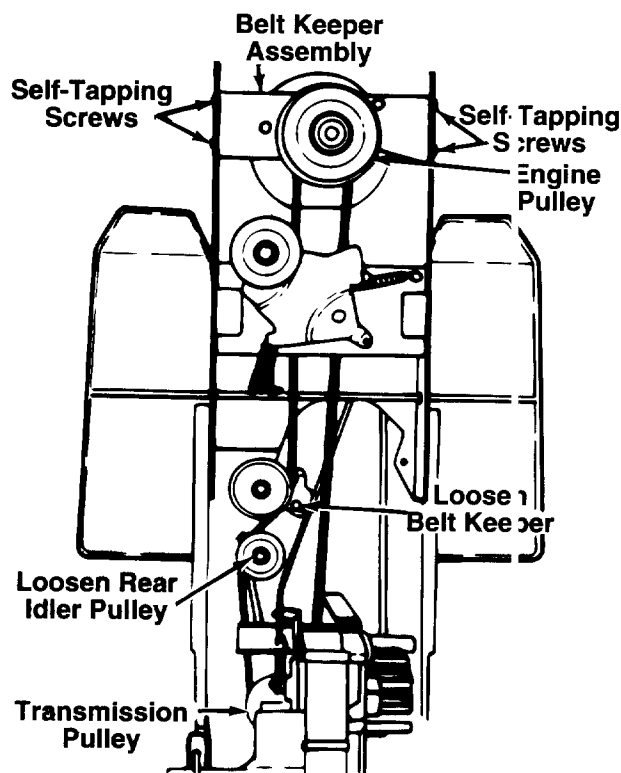

FIGURE 29.
DRIVE BELT (See figure 29)
4. Remove the four self-tapping screws which hold the belt keeper assembly to the frame at the engine pulley. Push the belt keeper assembly forward, out of the way. See figure 29.